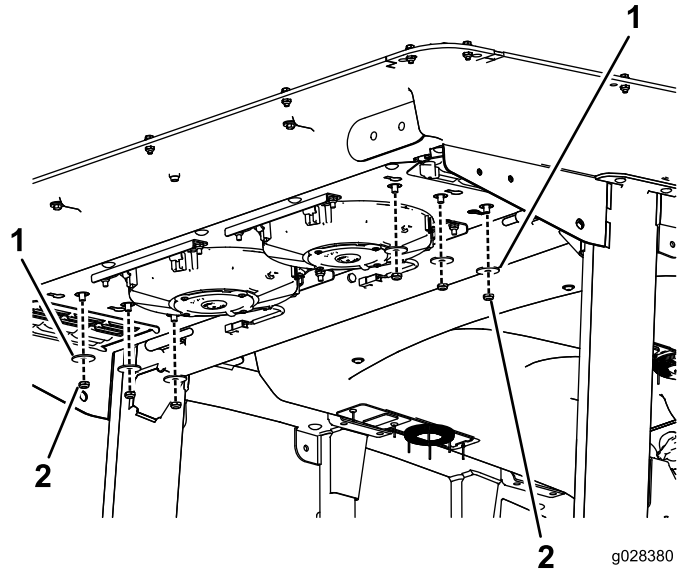

Figure 94
2. Remove the 6 nuts and washers from the bottom of the rear of the cab (Figure 94).